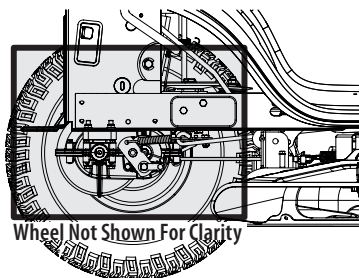

Figure 21
- Clean around and near the transmission, axle and the fan area. See Figure 21.